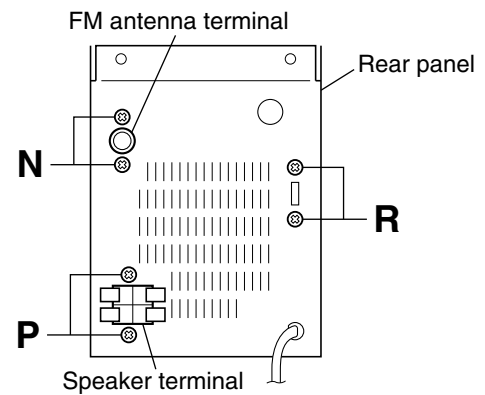

Fig.20
- Remove the main board according to its disassembly method (see **Figs. 20 and 21**).
## ■ Removing the main board (See Figs. 20 and 21.)
## ■ Removing the voltage selector board (See Figs. 20 and 21.)